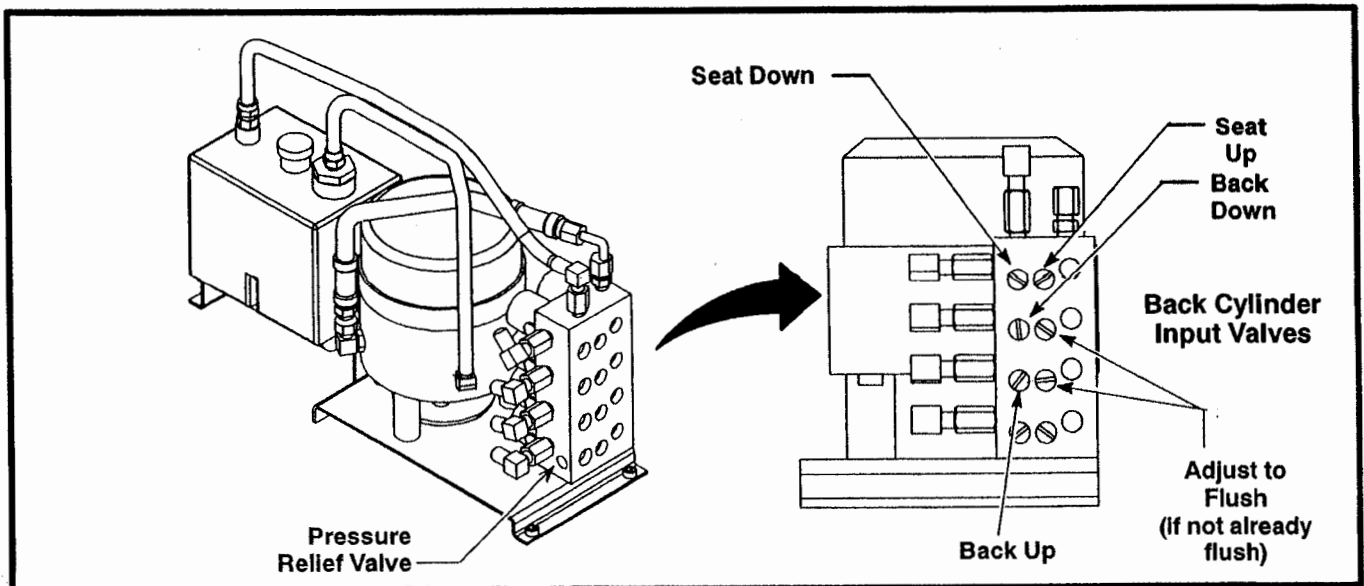

Figure 2-2. Manifold Adjustment Screw Locations
8. Using a flat blade screwdriver, make the following adjustments to the hydraulic manifold. Refer to Figure 2-2 and proceed as follows: